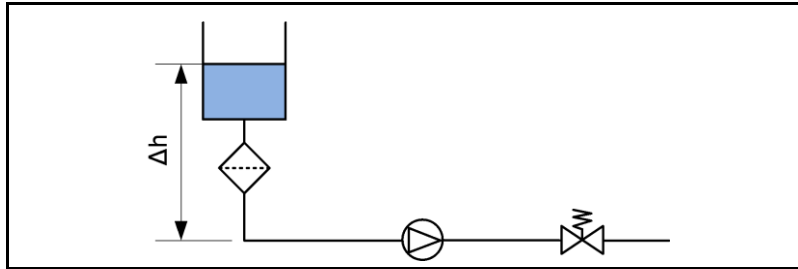

Fig. 19: Storage container above the pump.
In order to avoid uncontrolled escaping of the medium, a pressure control valve must be used on the pressure side (see Fig. 19).
- Set up the system as shown in Fig. 19